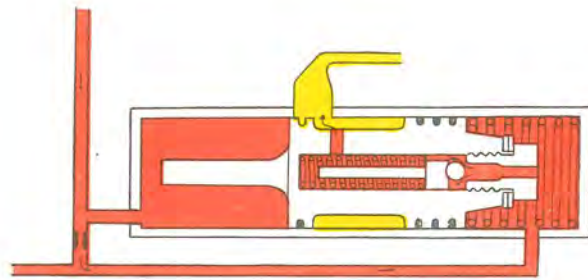

Fig. 6-44. Control valve, maximum pressure
Should the pump flow through the outlet be stopped, for example, because the front wheel turning is blocked, the pressure in the delivery line (1), will rise and the pressure difference between both ends of the control valve will be equalized. This will cause the spring to be moved to the left, the connection with the return channel to be closed and the pressure to rise even more. At about 75 kp/cm² (1066 p.s.i.) the spring pressure on the safety valve (6) is overcome, that is, the inner part of the control valve, and oil can then pass out to the return channel (4). See Fig. 6-44. The pressure on the right-hand side of the piston will then drop and the entire control valve will be moved to the right so that the connection with the return channel opens. When the pressure drops to its normal value, the safety valve closes and the control valve returns to its normal position.